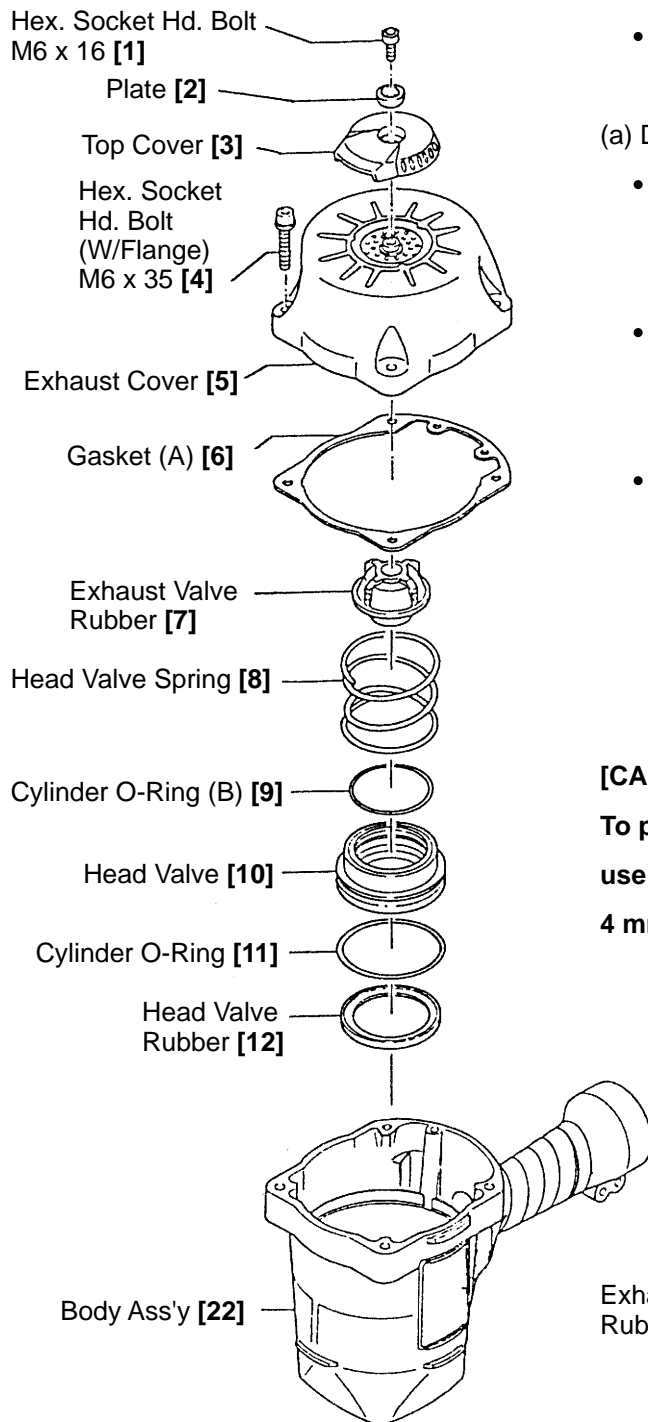
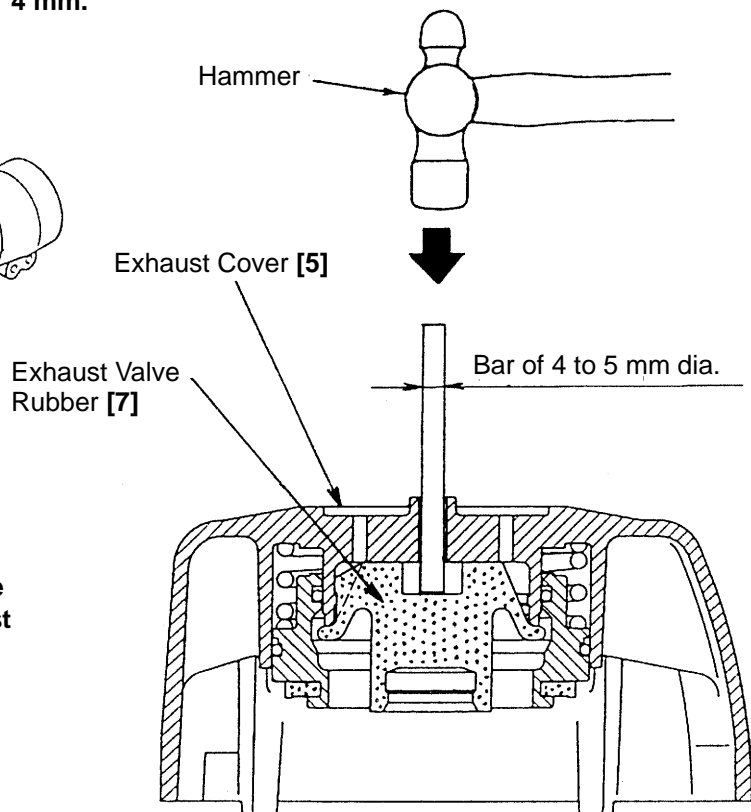

Fig. 1A Disassembly and reassembly of the Exhaust Cover, Head Valve, Exhaust Valve Rubber, etc.
Fig. 1B
(See Fig. 1A and Fig. 1B.)
- As shown in Fig. 1B, insert a 4 to 5 mm dia. bar into the hole of M6 screw in the Exhaust Cover [5] and force out the Exhaust Valve Rubber [7] with a hammer. Now, the parts forming the Exhaust Valve Rubber [5] can be taken out.